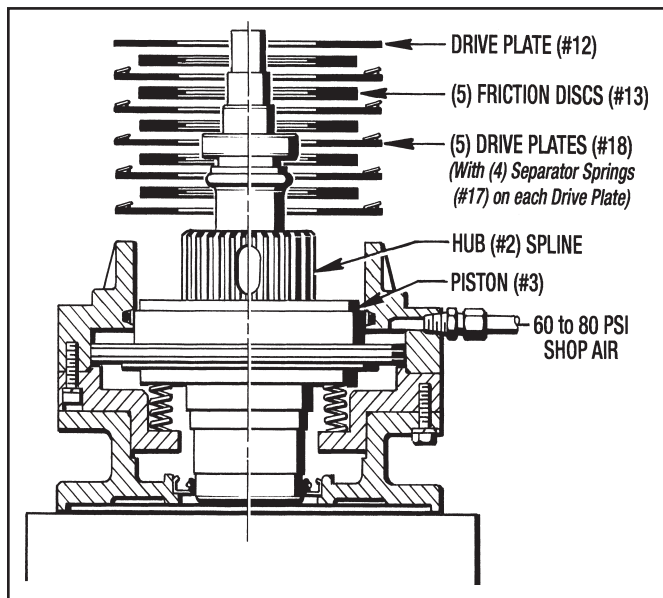

Figure 9.7 - Brake Stack Arrangement
2. While the air pressure is being applied, install the Brake Stack as shown in Figure 9.7.